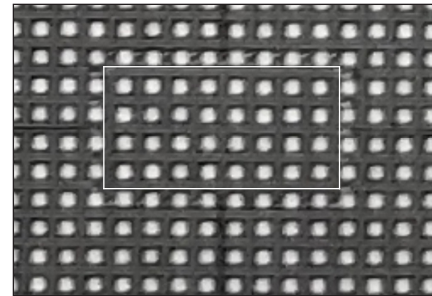

Figure 51: Tile Mask Jiggling Piece
- Place mask jiggling pieces (MP-4021293) in the corners of the tile spanning between four tiles. There should be a 1/2 pixel space between the main mask and the jiggling mask. Refer to **Figure 51**. Do not place jiggling pieces around the perimeter of the display.